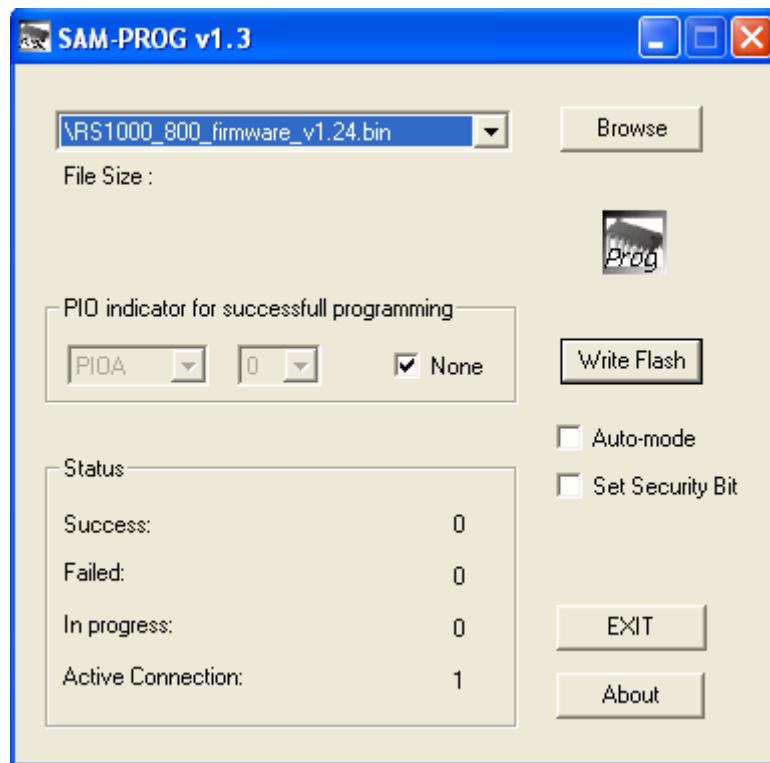

Fig. 46
Step 12: The “Write Flash” button will be clickable. You should see the window shown below: (Fig. 46)